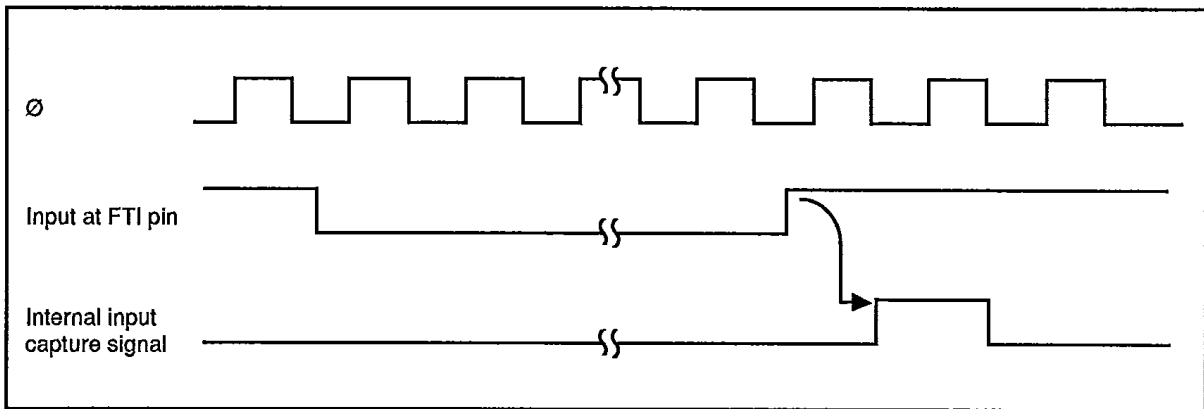

Figure 7-9. Input Capture Timing (Usual Case)
(1) **Input Capture Timing without Noise Canceler:** An internal input capture signal is generated from the rising or falling edge of the FTI input, as selected by the IEDG bit in the TCSR. Figure 7-9 shows the usual input capture timing when the rising edge is selected (IEDG = 1).
(2) **Input Capture Timing with Noise Canceler:** The noise canceler samples the FTI input, and does generate an internal input capture signal until three to four sampling clock cycles after the rise or fall of FTI. Figure 7-9 shows the timing.